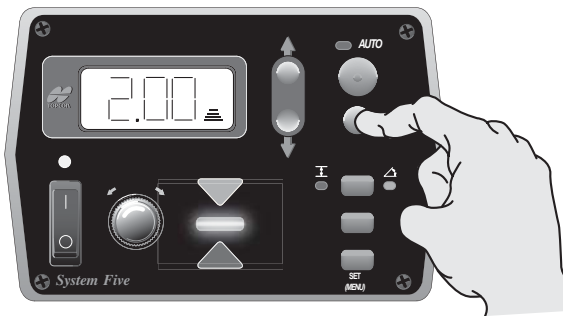

Figure 5-6. Setting the Tracker On-grade
1. With the power on, press and hold the Survey button for one second until the box beeps and the green on-grade bar lights up (Figure 5-6).